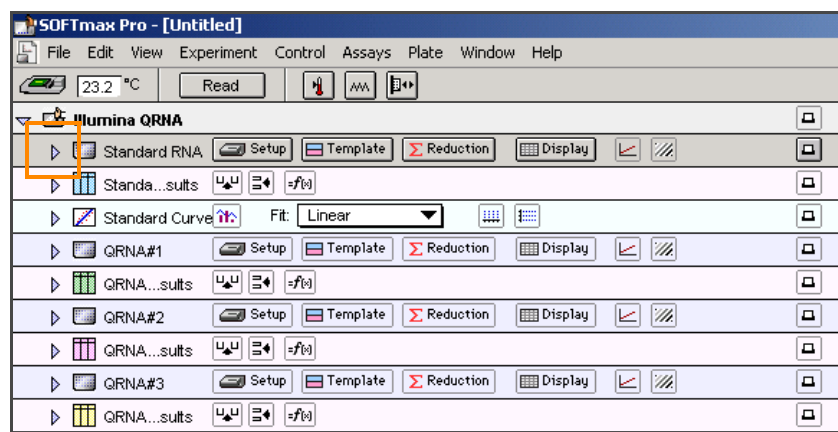

Figure 15 Select the Standard RNA Screen
5. Click the blue arrow next to **Standard RNA** (Figure 15).